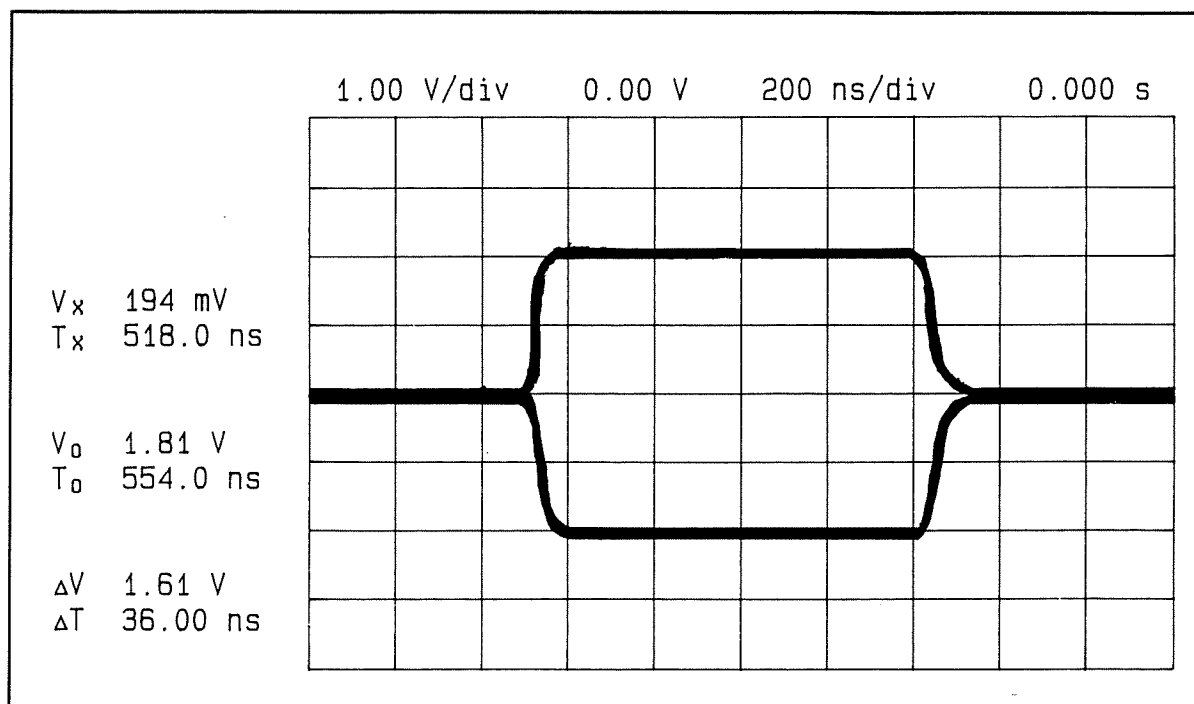

Figure 3-15. Pulse Modulation Envelope Waveform
5. Set the equipment as indicated in the following table. For each step, observe the 10% to 90% risetime and faltime of the RF burst relative to its steady-state value. (Refer to figure 3-15 for details.) The risetime and faltime should be within the limits shown in the table.
Figure 3-15 shows the RF burst envelope as displayed on a digitizing oscilloscope. The X and O markers are at the approximate 10 and 90% points on the envelope. The reading for ΔT is the approximate risetime.